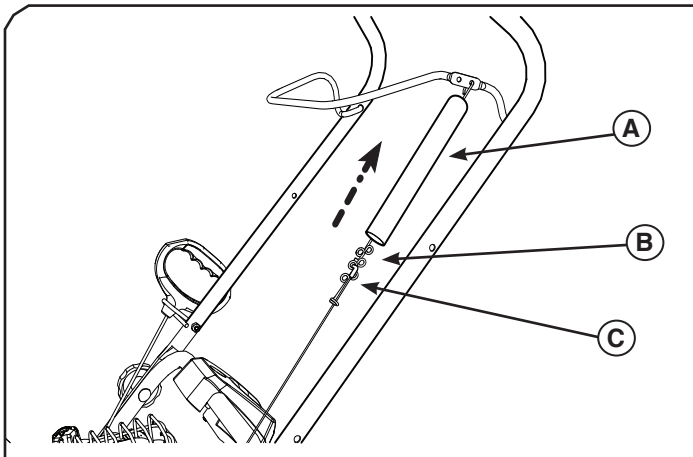

Figure 8
2. Lift the cable cover (A, Figure 8) to expose the adjustment loops (B) and the cable end fitting (C).